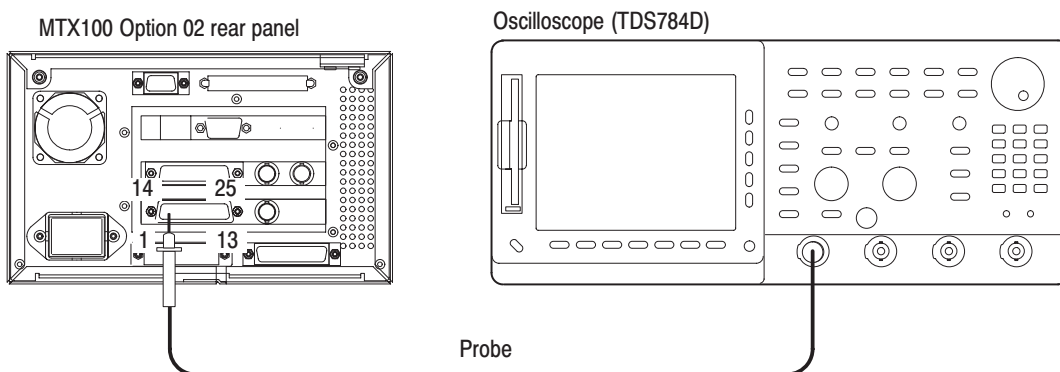

Figure 4-10: Initial equipment connection for verifying the universal parallel/serial interface
1. Connect the probe to the oscilloscope CH1 input as shown in Figure 4-10.